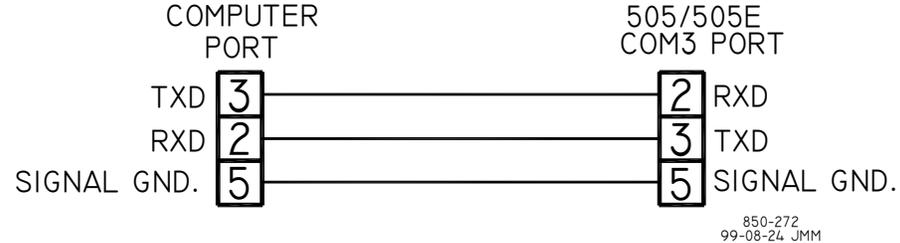

Figure 1. RS-232 Communications Cable
- RS-232 Null modem cable (See Figure 1)